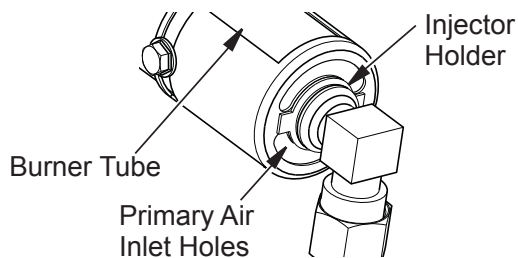

Figure 38 - Injector Holder On Outlet Burner Tube
2. Inspect burner, pilot and primary air inlet holes on injector holder for dust and dirt (see Figure 38, Page 29).